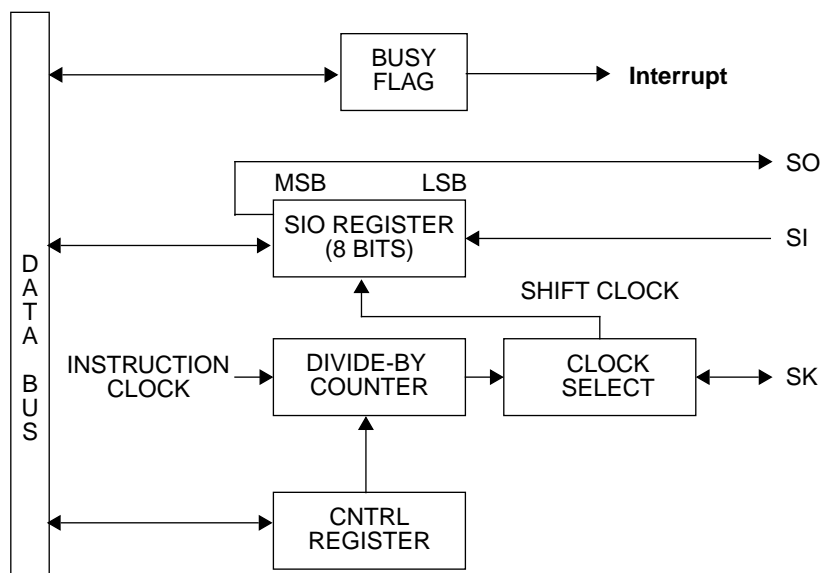

Figure 13. MICROWIRE/PLUS Block Diagram
MICROWIRE/PLUS is a serial synchronous communications interface. The MICROWIRE/PLUS capability enables the device to interface with any of National Semiconductor's MICROWIRE peripherals (i.e. A/D converters, display drivers, E2PROMs etc.) and with other microcontrollers which support the MICROWIRE interface. It consists of an 8-bit serial shift register (SIO) with serial data input (SI), serial data output (SO) and serial shift clock (SK). Figure 13 shows a block diagram of the MICROWIRE/PLUS logic.